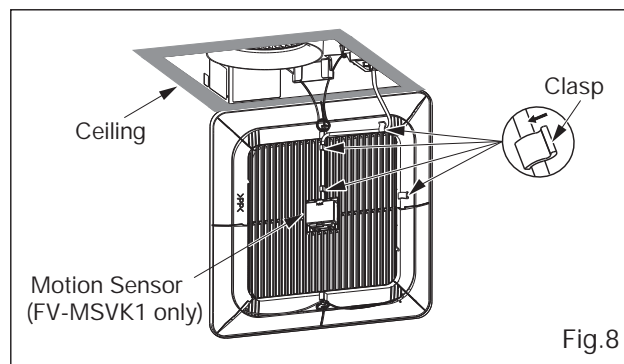

Fig.8
11. Insert the grille mounting spring on the wiring side into the slot. (Fig.8)